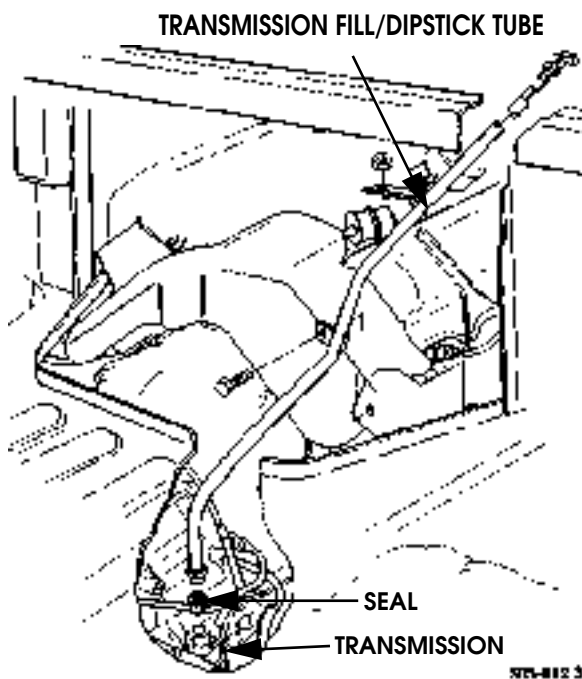

Figure 2-58: Transmission Dipstick Tube
- Remove transmission fill tube Figure 2-58.